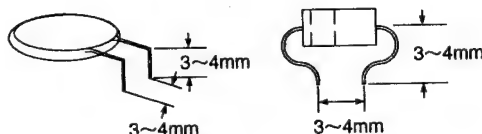

Fig. 5-6-2
4. Form leads of the replacement part (general part equivalent to the chip part) as shown in the figures and solder place. (Fig. 5-6-2)